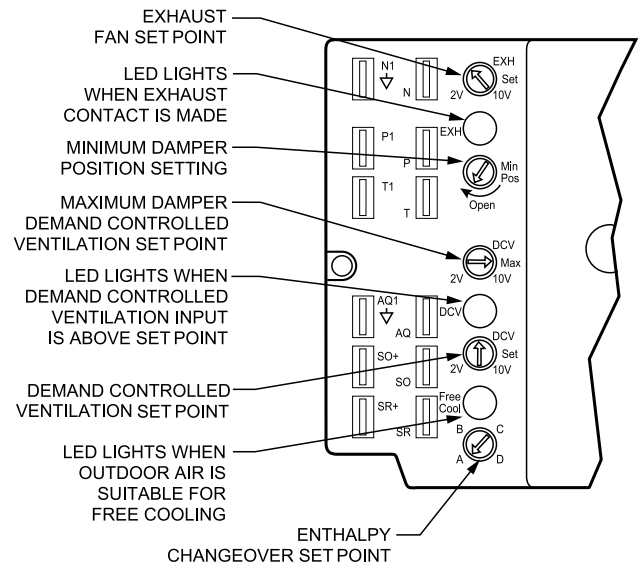
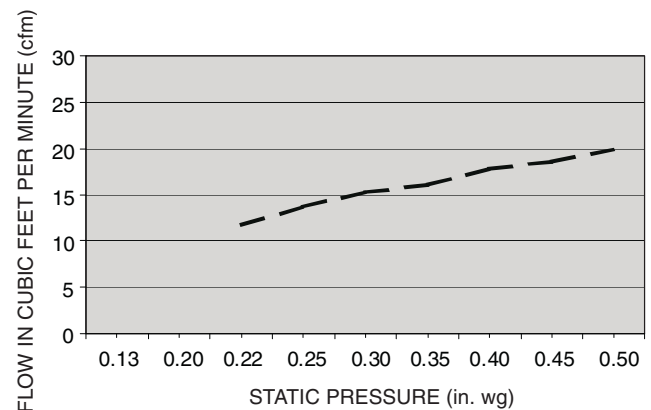

Fig. 60 — EconoMiSer IV Controller Potentiometer and LED Locations
Fig. 61 — Outdoor-Air Damper Leakage
The standard controller is shipped from the factory configured for outdoor dry bulb changeover control. The outdoor air and supply air temperature sensors are included as standard. For this control mode, the outdoor temperature is compared to an adjustable setpoint selected on the control. If the outdoor-air temperature is above the setpoint, the EconoMiSer IV controller will adjust the outside air dampers to minimum position. If the outdoor-air temperature is below the setpoint, the position of the outside air dampers will be controlled to provide free cooling using outdoor air. When in this mode, the LED next to the free cooling setpoint potentiometer will be on. The changeover temperature setpoint is controlled by the free cooling setpoint potentiometer located on the control (see Fig. 60.) The scale on the potentiometer is A, B, C, and D. See Fig. 61 for the corresponding temperature change-over values.
turn the enthalpy setpoint potentiometer fully clockwise to the D setting. (See Fig. 60.)
The exhaust setpoint will determine when the exhaust fan runs based on damper position (if accessory power exhaust is installed). The setpoint is modified with the Exhaust Fan Setpoint (EXH SET) potentiometer. See Fig. 60. The setpoint represents the damper position above which the exhaust fans will be turned on. When there is a call for exhaust, the EconoMiSer IV controller provides a 45 ± 15 second delay before exhaust fan activation to allow the dampers to open. This delay allows the damper to reach the appropriate position to avoid unnecessary fan overload.
There is a minimum damper position potentiometer on the EconoMiSer IV controller. See Fig. 60. The minimum damper position maintains the minimum airflow into the building during the occupied period.
3. Ensure that the factory-installed jumper is in place across terminals P and P1. If remote damper positioning is being used, make sure that the terminals are wired according to Fig. 60 and that the minimum position potentiometer is turned fully clockwise.